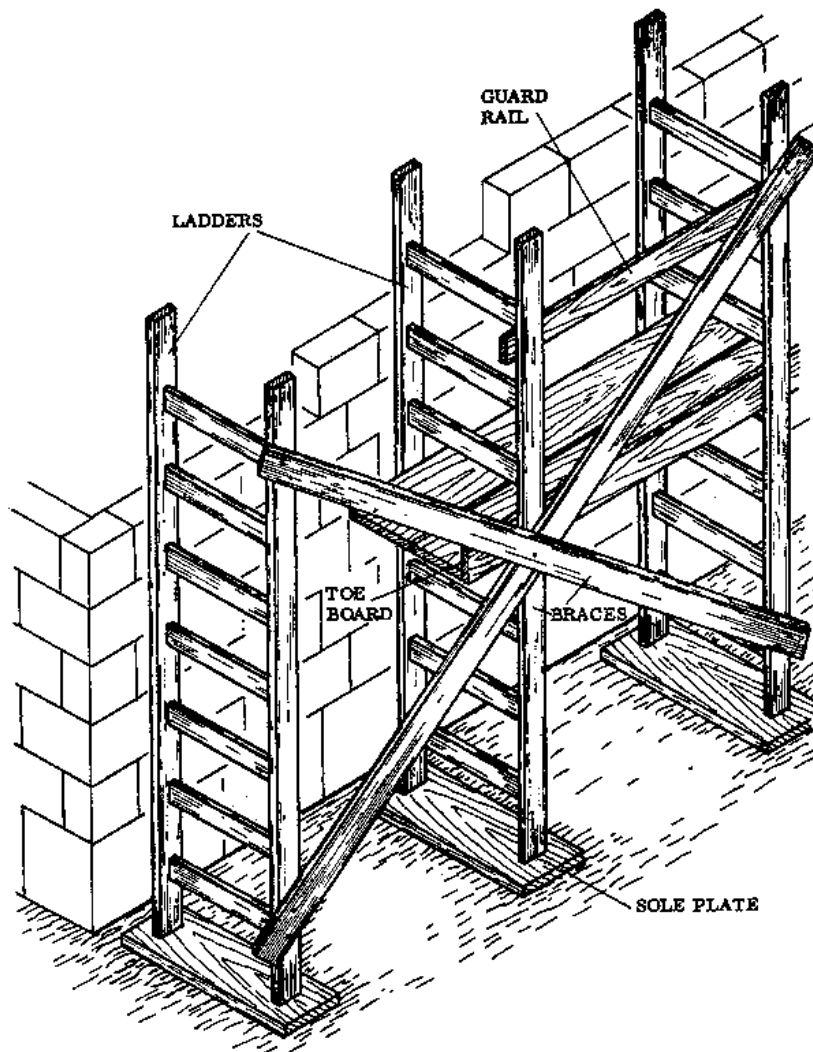

Fig. 1
- MEMBERS OF THE SCAFFOLD: (see Fig. 1)